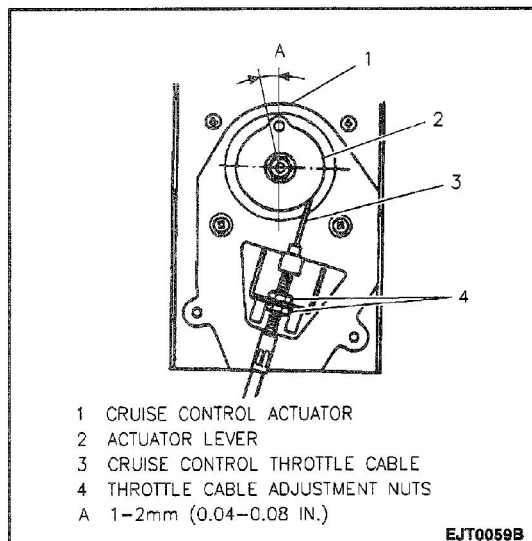

Figure 9—Cruise Control Actuator Internal View
3. Loosen the cruise control cable locknut (Figure 9).
4. Cruise control cable from cruise control actuator lever (Figure 9).
- Cruise control cable play by adjusting the cruise control cable locknuts. Cruise control cable play: 1 to 2 mm (0.04 to 0.08 in.) at actuator closed throttle position. (Figures 9 and 10).
2. Loosen the cruise control cable locknut (Figure 9).